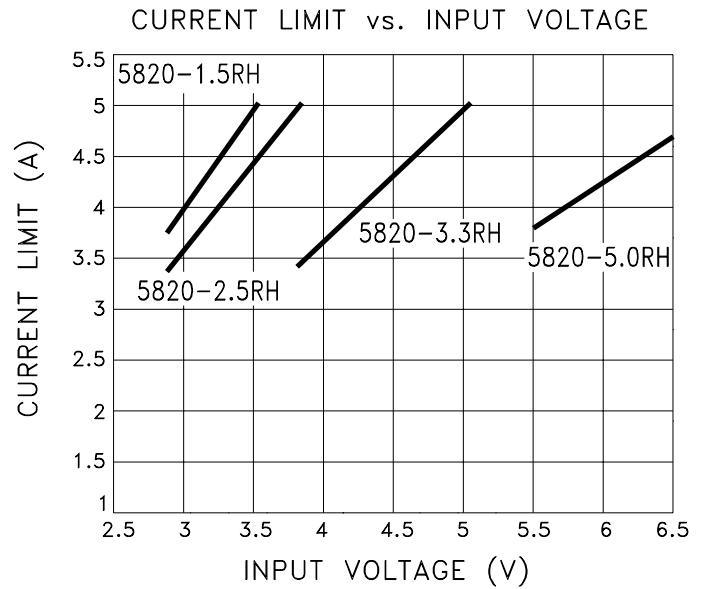

FIGURE 1
- ⑦ Output current limit is dependent upon the values of VIN and VOUT. See Figure 1 and typical performance curves.
- ⑧ Continuous operation at or above absolute maximum ratings may adversely effect the device performance and/or life cycle.
- ⑨ VIN shall be as specified or VIN min., whichever is greater.
- ⑩ Not applicable to versions where VIN = VIN Min.
- ⑪ Pre and post irradiation limits @ 25°C, up to 300 Krad TID, are identical unless otherwise specified.
- ⑫ Reference DLA SMD 5962F09216 for electrical specification for devices purchased as such.
- ⑬ Internal solder reflow temperature is 180°C, do not exceed.
The MSK5820RH current limit function is directly affected by the input and output voltages. Figure 1 illustrates the relationship between VIN and ICL for various output voltages. It is very important for the user to consult the SOA curve when using input voltages which result in current limit conditions beyond 4.5 Amps. When using input voltages which result in current limit above 4.5 Amps, the user must maintain output current within the SOA curve to avoid damage to the device. Note that 5 Amp maximum is due to current carrying capability of the internal wirebonds.